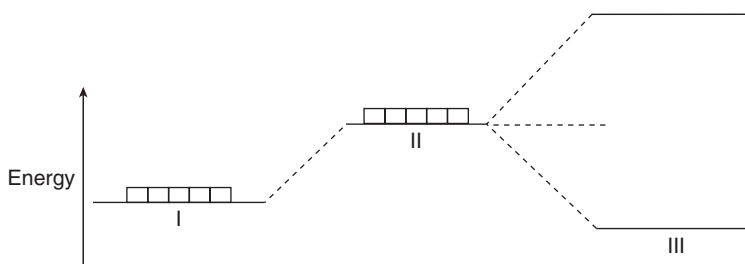

Figure 3 Crystal field splitting of  $d$ -orbitals of central metal ion of a complex in a given ligand environment.
4. When the ligands approach to the central metal ion along a specific direction in a complex of definite geometry, the electrons present in those the  $d$ -orbitals which lie along these directions, experience more repulsion and the energy of these  $d$ -orbitals increase. As a result, degeneracy of five degenerate  $d$ -orbitals is lost and they split into two sets of different energies. Thus, the splitting of five degenerate  $d$ -orbitals of the central metal ion into two sets of orbitals having different energies in a given ligand environment or in a complex of definite geometry is called **crystal field splitting** which is shown in Figure 3. The energy gap between the two sets of  $d$ -orbitals is called **crystal field splitting energy** ( $\Delta$ ).